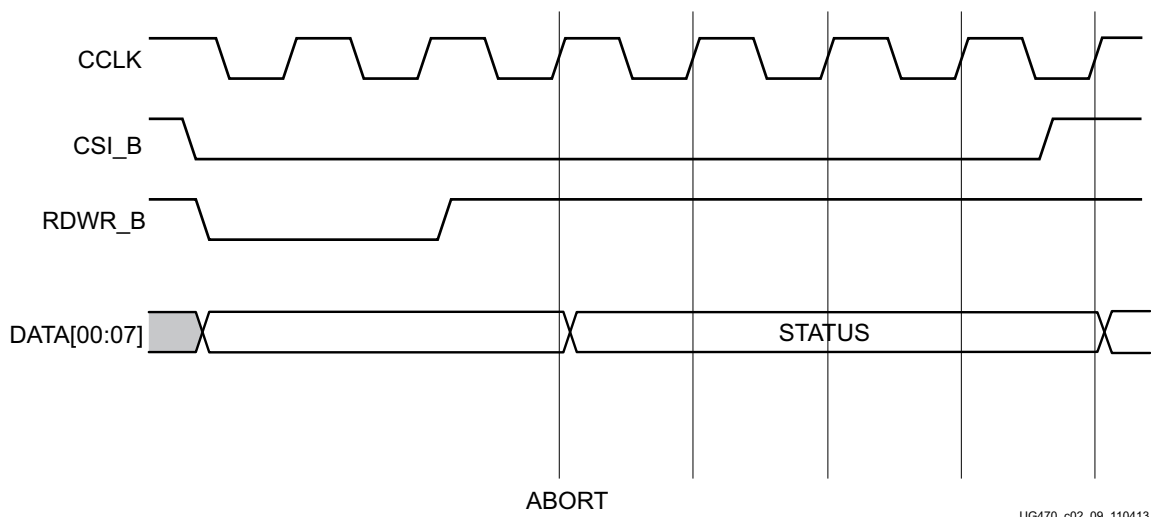

Figure 5-6: Configuration Abort Sequence for SelectMAP Modes
4. The ABORT lasts for four clock cycles, and Status is updated. See Figure 5-6.